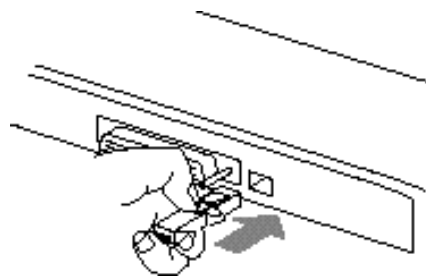

Figure 4-13 Installing the Telephone Pass Through Connector
6. If the Telephone Pass Through Connector is not already installed and you wish to use a modem while docked you must install the Telephone Pass Through Connector. (See Figure 4-13.) Listen for the click to be sure that the connector is properly seated.